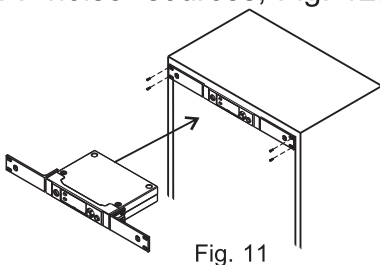

Fig. 11
3. Can be installed into an EIA standard 1U size rack, Fig. 11.